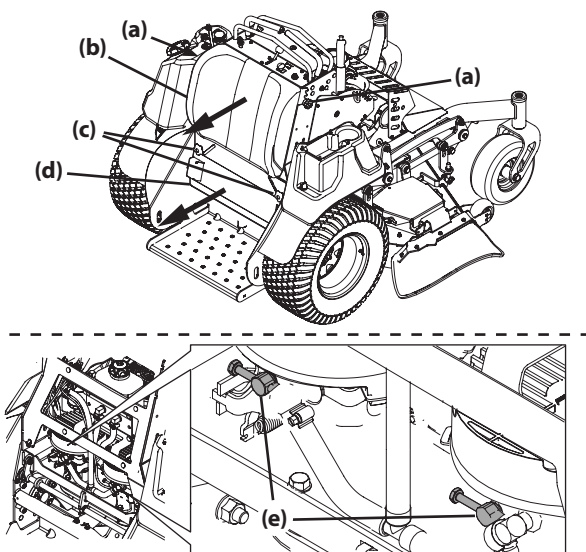

Figure 20
1. Loosen the two star knobs (a) securing the leg pad (b) to the mower. See Figure 20.